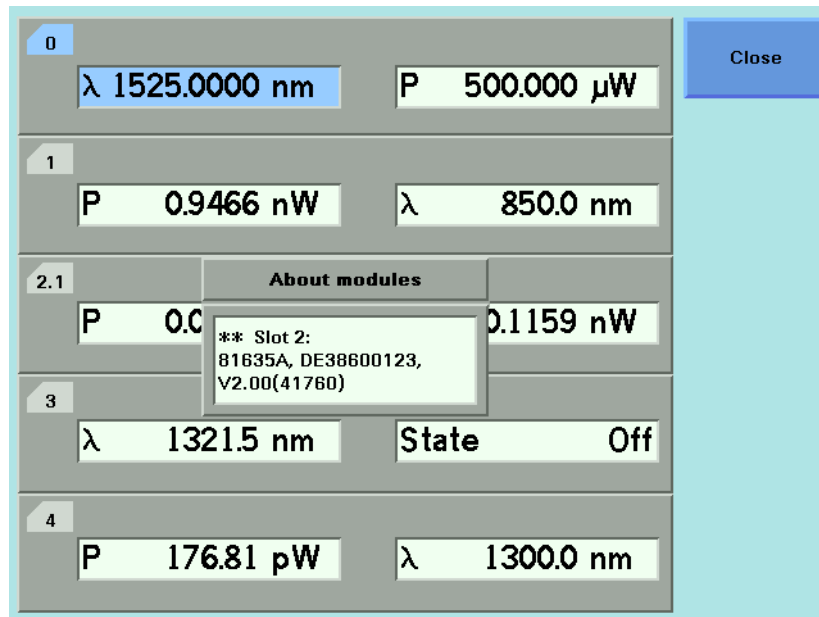

Figure 38 Viewing Information About a Module
- 4 The part number, serial number, and firmware revision of the chosen module are displayed, as shown in Figure 38.